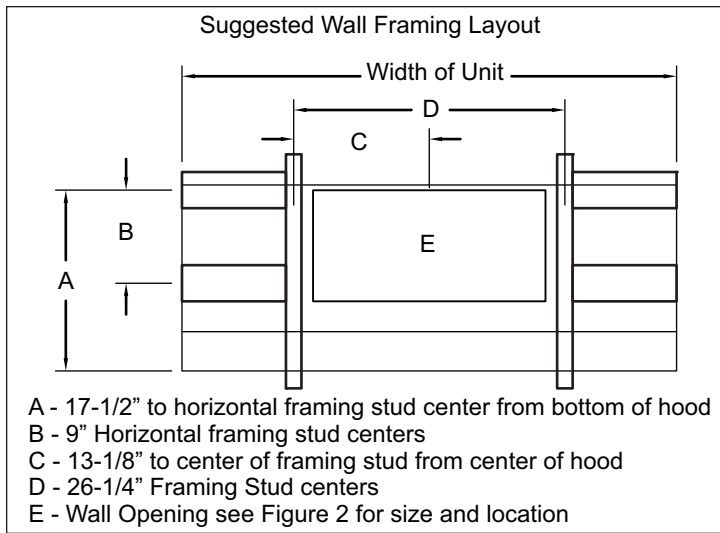

Figure 1
1. First, ensure that there is adequate wall framing available for the hood to mount securely to (See Figure 1).